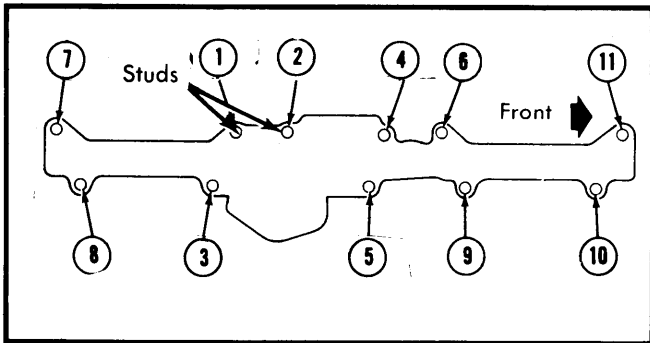

Fig. 1 Exhaust Manifold Tightening Sequence
**Installation** — Clean all gasket surfaces. Position exhaust manifold to cylinder head and install retaining bolts, washers and nuts. Tighten retaining bolts and nuts in sequence shown in Fig. 1. Reverse removal procedure to complete installation.